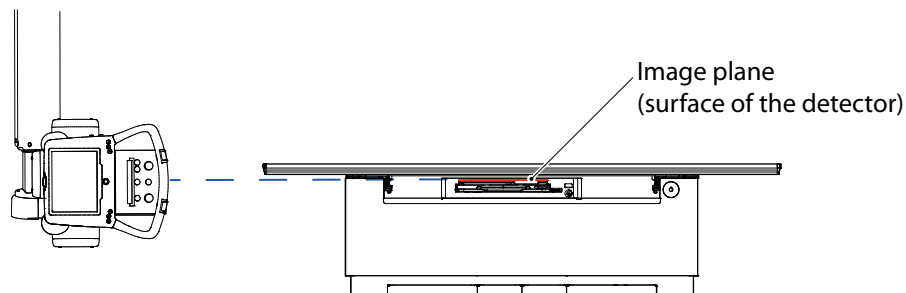

Fig. 4-137 Highest Table position
Position the OTC with the navigation buttons. See Fig. 4-137 *Highest Table position*.
4. Move the Table to the highest position and point at the same spot as mentioned above. See Fig. 4-137 *Highest Table position*.